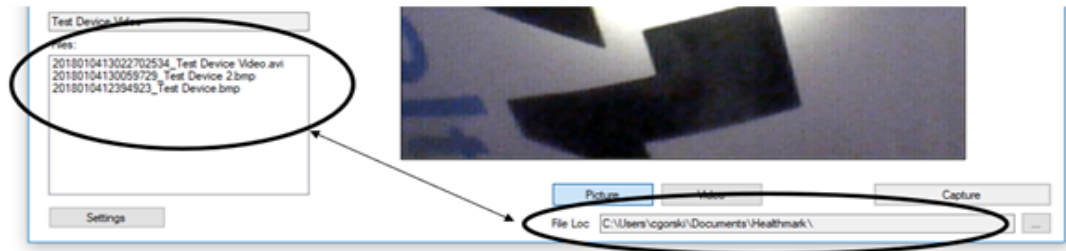

Figure 14
1. The Files Window **Fig. 14** in the Healthmark Viewer displays image files that are being stored in the File Loc **Fig. 14**.